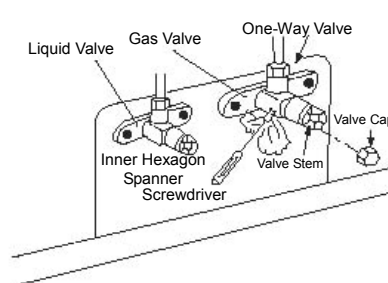

Fig.39
8. Fully open the spools of the liquid valve and the gas valve (refer to Figure 39).